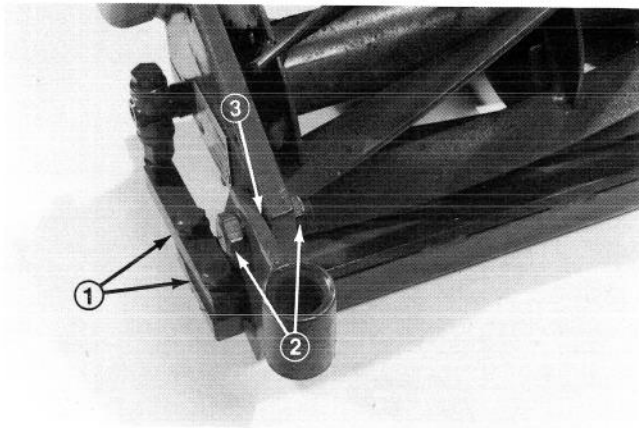

Figure 7
8. Install the assembly to the cutting unit. Be sure the flat washer is installed between the reel side plate and the bedbar (Fig. 7). Lubricate both taper bolts with "Never Seez" or equivalent and torque them to 180-240 in.-lb (20-27 N·m) to ensure bedbar will rotate while adjusting bedknife to reel. Torque the jam nuts to 340-420 in.-lb (38-48 N·m).